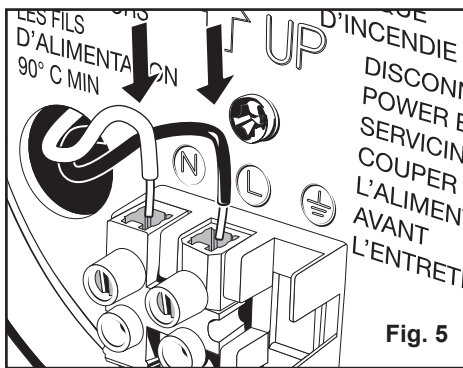
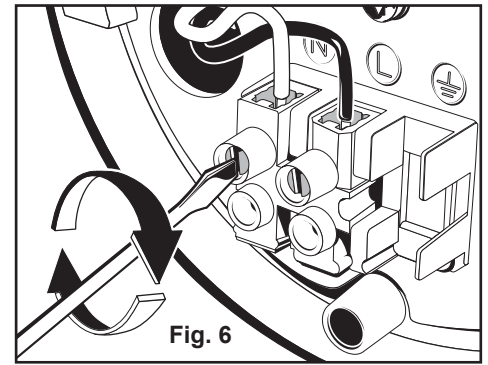
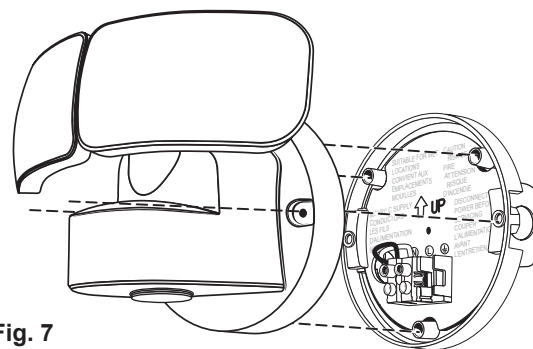
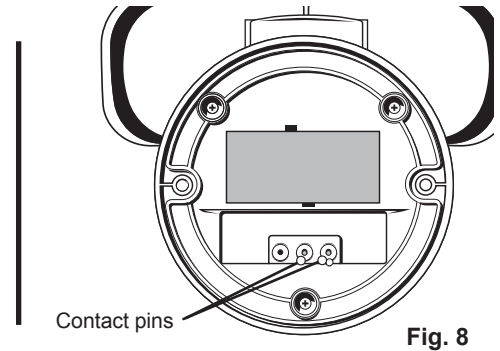

Fig. 5
Fig. 6
Fig. 7
Fig. 8
3. Insert the wires into their designated contact terminals (Fig. 5). Insert the **Black Supply Wire** (Live) into the terminal marked "L", insert the **White Supply Wire** (Neutral) into the terminal marked "N" (Fig. 6) and tighten screws to both terminals (Fig. 7).
4. The security light fits onto the mounting plate in a specific manner. There are three (3) tapered posts on the mounting plate, two toward the top and one at the bottom. They fit into three (3) corresponding holes on the back side of the mounting base of the fixture (Fig. 7). Line the holes and posts up and guide the fixture onto the mounting plate already attached to the junction box. There are also 2 contact pins that align and will engage the contact terminal block on the mounting plate (Fig. 8).